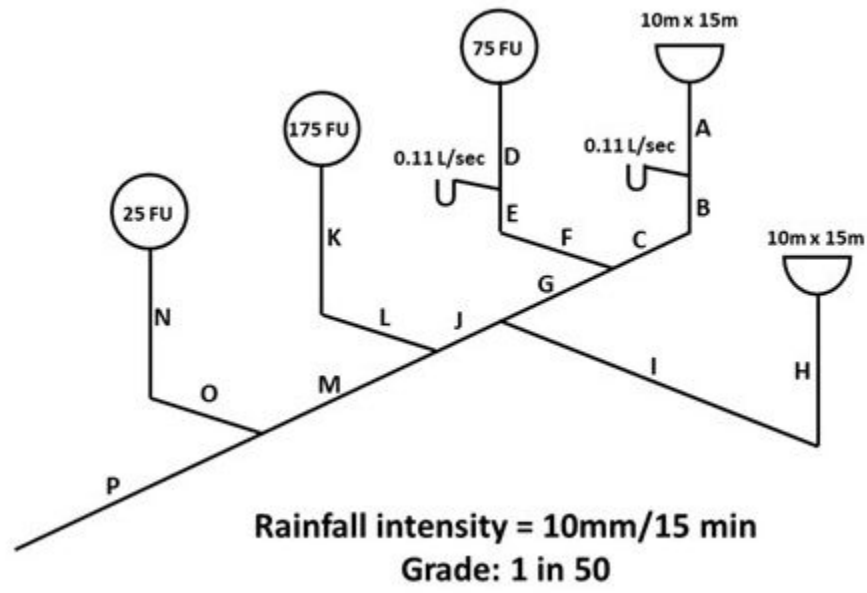

Figure 2 Sample load conversion
- Figure 2 Storm building drain and sewer by ITA is licensed under a CC BY-NC-SA licence (<https://creativecommons.org/licenses/by-nc-sa/4.0/>).